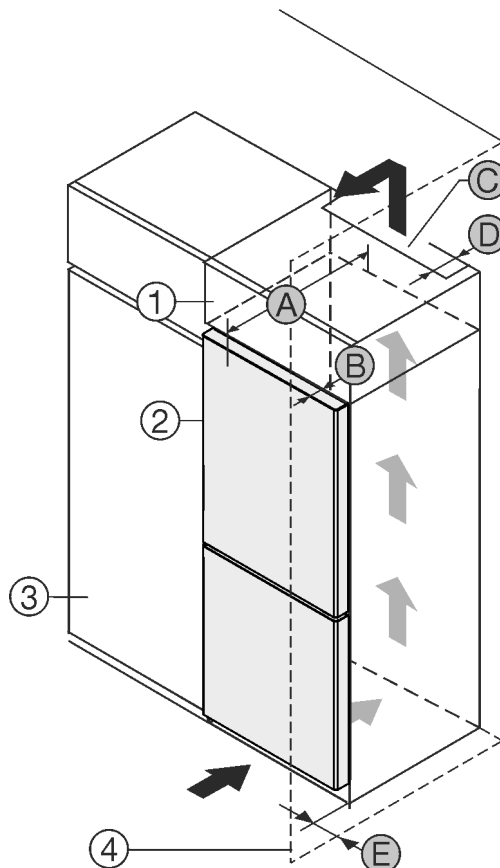

Fig. 1
You can place the appliance directly beside the kitchen cabinet *Fig. 1 (3)*.*
There must be a ventilation shaft at the depth *Fig. 1 (D)* of the back of the top cupboard over the entire width of the top cupboard.*
The ventilation cross-section *Fig. 1 (C)* must be maintained under the ceiling.*
If the appliance is set up with the hinges next to a wall *Fig. 1 (4)*, the distance between the appliance and the wall must be at least 13 mm.*
If the appliance is set up with the hinges next to a wall *Fig. 1 (4)*, the distance between the appliance and the wall must be at least 20 mm.*
In order to be able to fully open the door, the appliance must protrude by the depth of the door *Fig. 1 (B)* from the front of the kitchen cabinet. The appliance may protrude further depending on the depth of the kitchen cabinets *Fig. 1 (3)* and whether wall spacers are used.*